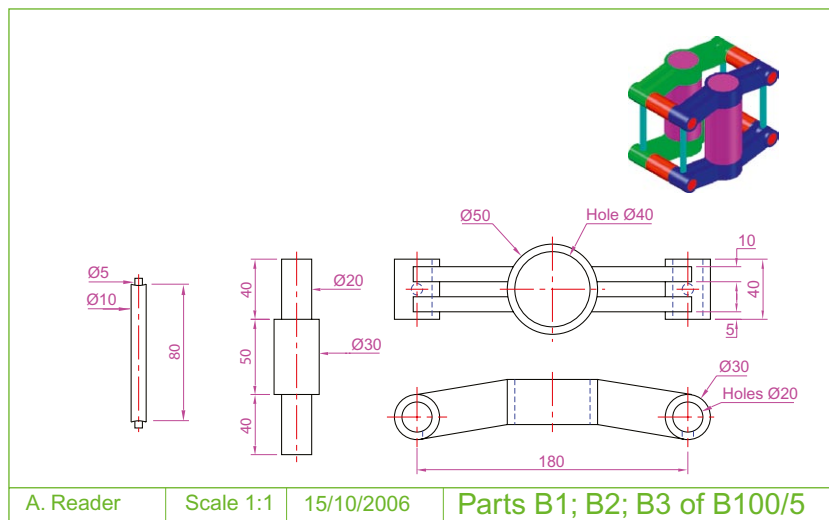

Fig. 19.5 Example – Raster image in a drawing
Example – Raster image in a drawing (Fig. 19.5)
10. Following the details given on page 386 attach **Fig05.bmp** to the drawing at a suitable position (Fig. 19.5).
2. Place the image in position in the drawing area. In Fig. 19.5 the orthographic projections have been placed within a margin and a title block has been added.
1. Open a four-viewport screen of the assembled 3D model shown in the first example (Fig. 19.5).
1. Open the orthographic drawing with its raster image (Fig. 19.5).